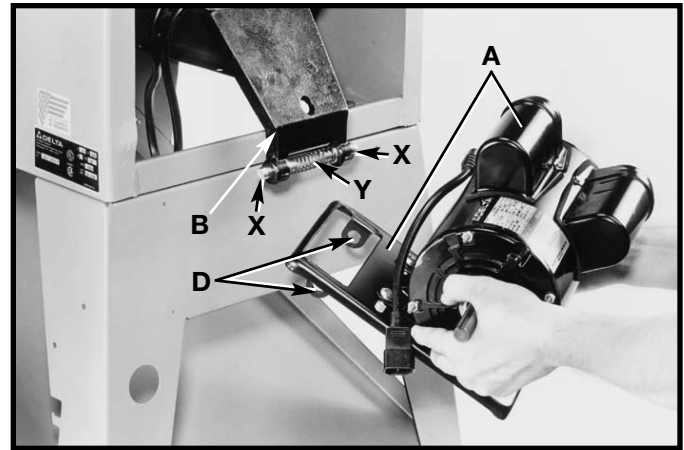
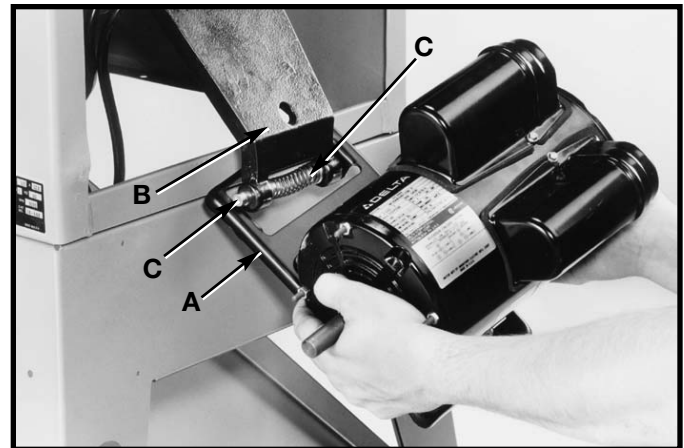

Fig. 12
Fig. 13
1. Locate the two pins (X) Fig. 12 that insert into holes (D) in each side of bracket (B). The pins (X) are spring (Y) loaded from factory.
2. Position motor and motor mounting plate (A) Fig. 13 below bracket (B) to allow bracket arm to slide through large opening in motor mounting plate (A).
3. Depress pins (C) Fig. 13, on both sides of bracket (B) and rotate motor mounting plate (A) until pins (C) are engaged in holes (D) Fig. 12, of motor mounting plate (A).